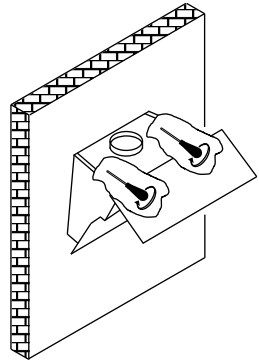

Fig 8
6. Drill both holes and fix the Vivaldi to the wall using plugs and screws (Fig 8).